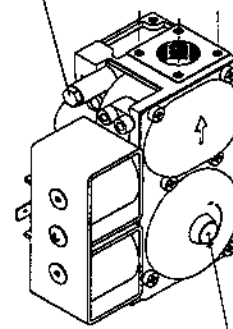

Fig. 20
- 6.6.3 Locate the main burner pressure test point (Fig. 20) and slacken the screw in an anti-clockwise direction. Attach a suitable pressure gauge. Turn on the boiler for central heating.
If the pressure is wrong or if it is required lower it can be adjusted. Identify the regulating screw on the side of the gas valve (Fig.20), turning the regulating screw clockwise will increase the pressure or turning the screw anti-clockwise will decrease the gas pressure. Once this pressure has been fixed it should be indelibly recorded on the label provided and stuck next to the data badge. This is to ensure that the burner can be reset when any service operation involves alteration of burner settings.